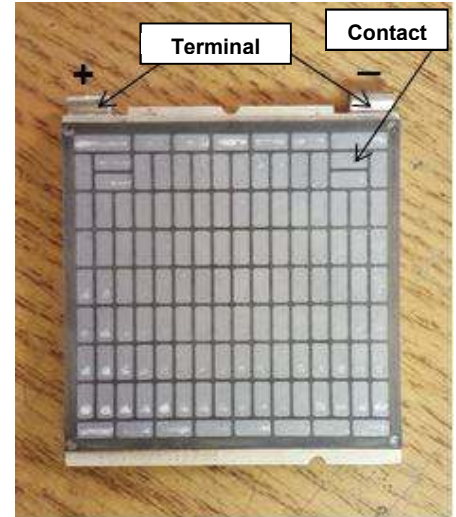
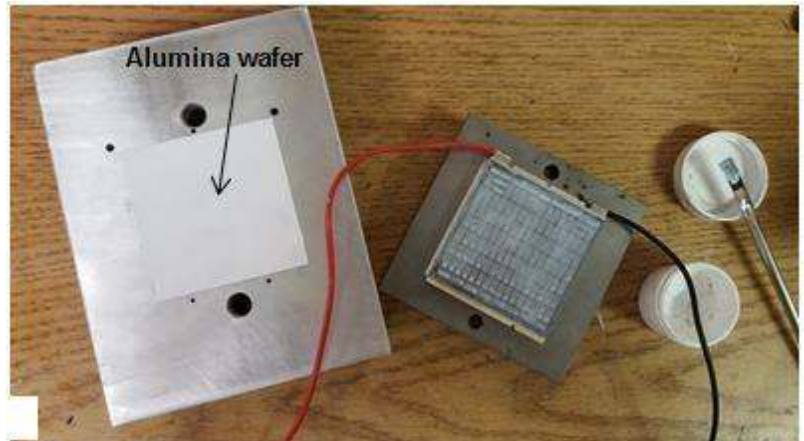
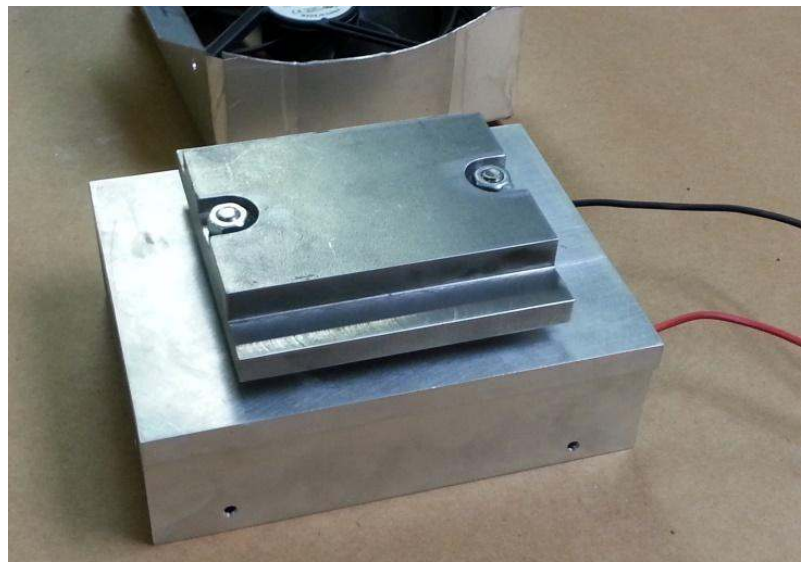

Figure 1: HZ-14 High Voltage
Figure 5: Module insulation
Figure 6: Assembled Test Fixture
1. **HOT AND COLD SIDE IDENTIFICATION:** Figure 1 exhibits the HZ-14HV module cold-side up. There are two terminals on the top of the module, as shown in the figure. The terminal on the left is positive (+) and the terminal the right is the negative (-). These are labeled in Figure 1.
6. The heat sink and heat source should have a thermocouple wells (shown in **Figure 6**) drilled into them. This is needed to accurately measure the temperatures as they change.
10. You will need insulators on either side of the module because electrical current flows through the module contacts (labelled in **Figure 1**). Alumina ( $\text{Al}_2\text{O}_3$ ) wafers, as shown in **Figure 5**, are ideal for this purpose.
11. Assemble with the module with insulators in between the hot surface and the cold surface with the insulators on either side of the module as shown in **Figure 6**. Take extra care to make sure that the hot side of the module is facing the heat source and the cold side of the module is facing the heat sink. The module shown in **Figure 5** is facing hot side down because that is the side that will face the heat source.